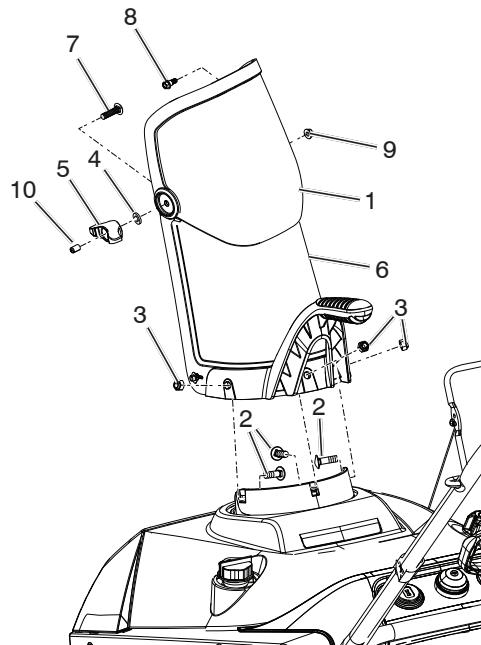

Figure 4
1. Install the chute deflector to the discharge chute using bolts and, washer, nut, deflector knob and cap plunger (Figure 4).
2. Install the discharge chute to the chute base using three screws and nuts (Figure 4).